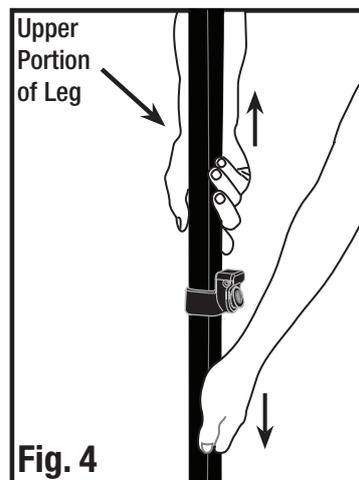

Fig. 4
- Extend legs until it snaps into place, make sure all four posts are at the same level. (Fig. 4)